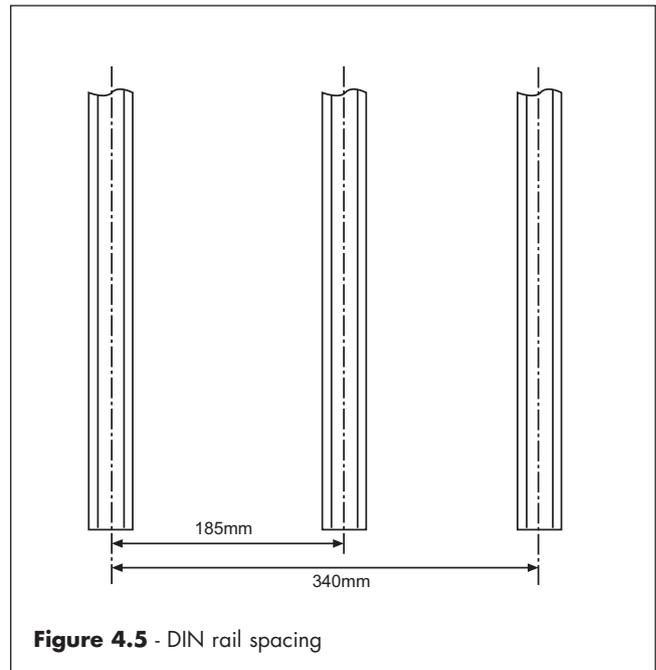

Figure 4.5 - DIN rail spacing
- Mount the lengths of DIN-rail vertically and in parallel. Measuring from the lefthand rail, mount the other two rails on 185mm and 340mm centres. See Figure 4.5.